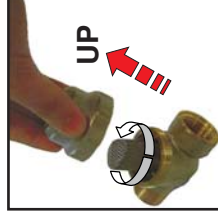

Fig. 4
12. Clean solid filters weekly (I) & (J). Open the filter by unscrewing it in an anti-clockwise direction (Fig.4).